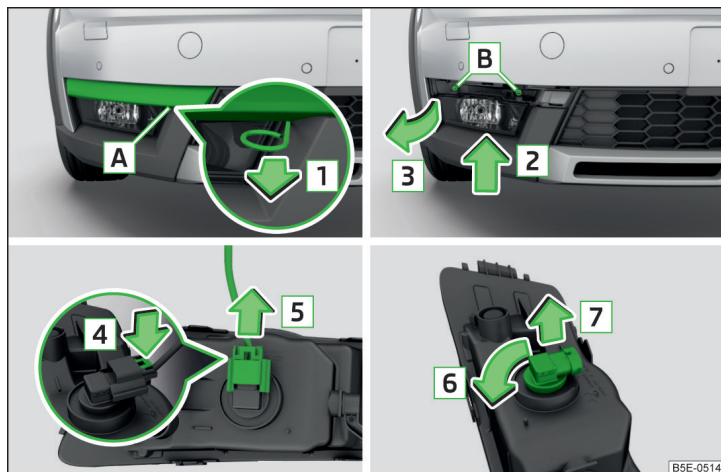

Fig. 224 Remove the fog lamp / bulb change - Version 2
- Insert in opening **A** » Fig. 224 the clamps for removing the full wheel covers » page 208, *Vehicle tool kit*.
- Replace the fog light by inserting it in the opposite direction of the arrow **3** » Fig. 224 and tighten.